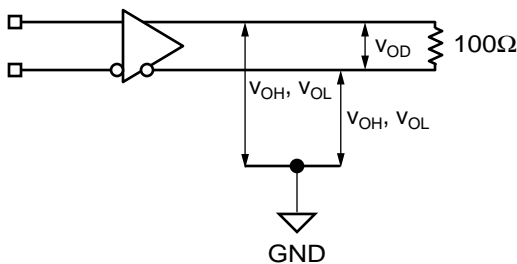

Figure 3. LVDS Differential Measurement
**Note 7.** Measured as per Figure 3, 100 $\Omega$  across Q and /Q outputs.